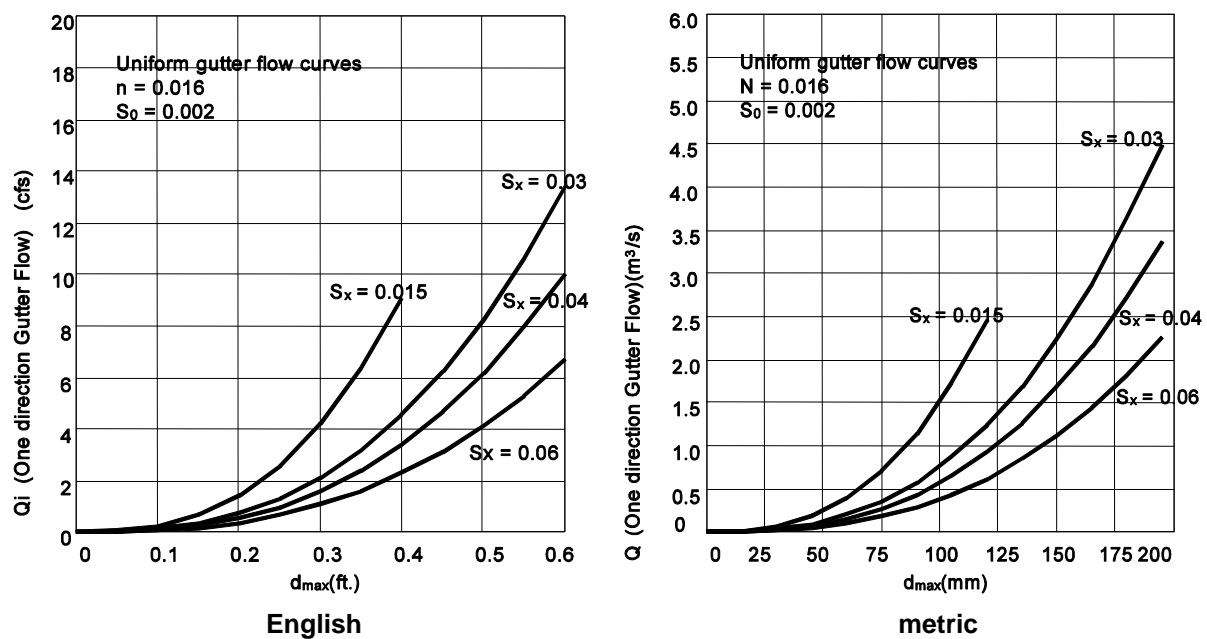

Figure 10: Depth of flow at intake where gutter grade is minimum.³
Step 3 is to check the spread caused by the longitudinal grade approaching zero near the intake. Use Figure 10 and the Q from each direction independently. The figure will show the spread at the curb (for each side of the intake) when the longitudinal slope is 0.002 (the minimum slope required to carry water in the gutter just before reaching the intake).